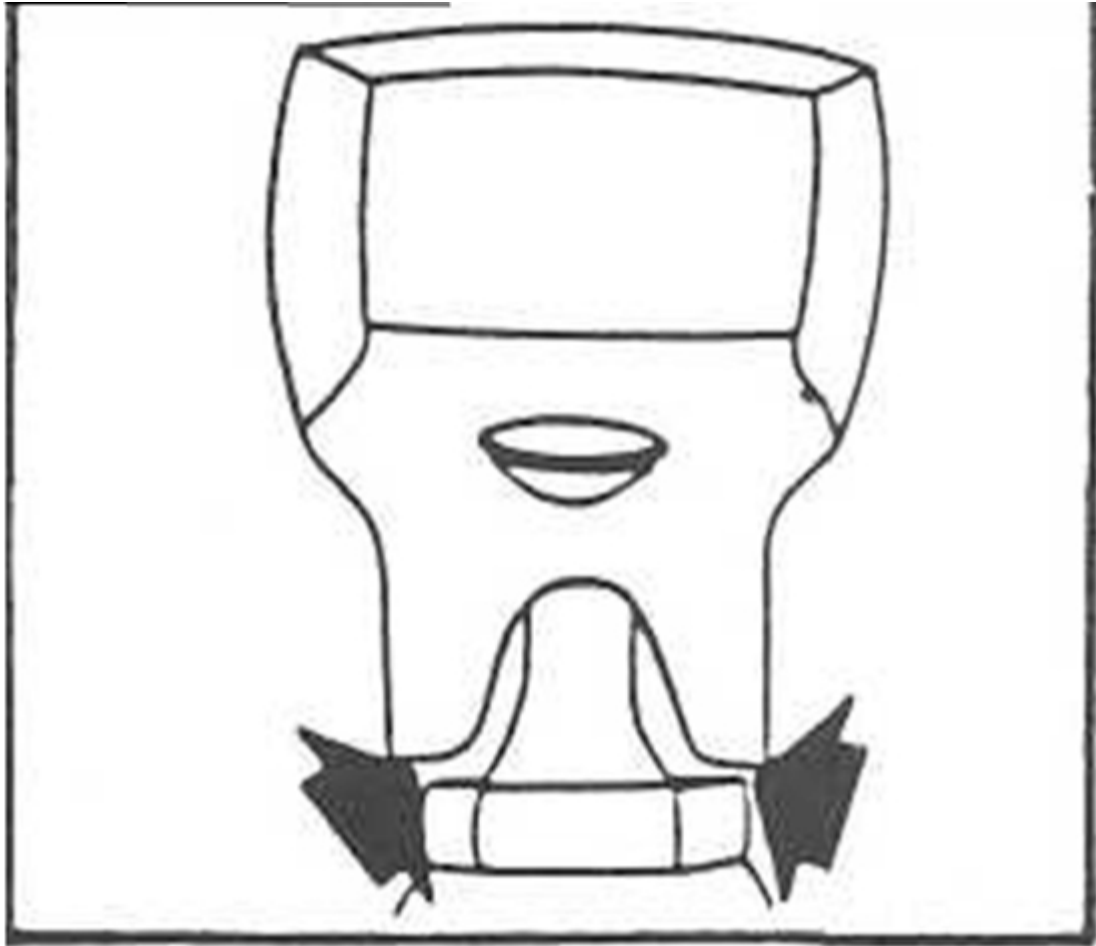

FIGURE 1
2. Check to insure that the bottom side of the rocker arm does not contact the lower portion of the rocker arm stud, or the stud boss, when the lifter is on the base circle, which is the lowest point of the cam. See Figure 1. Installation of a longer than stock length pushrod will increase the clearance in this area.